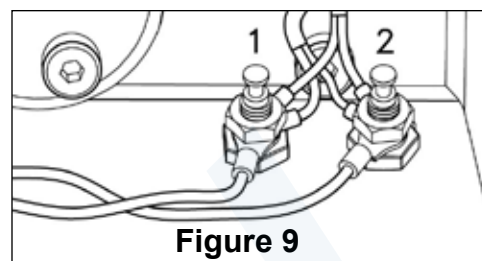
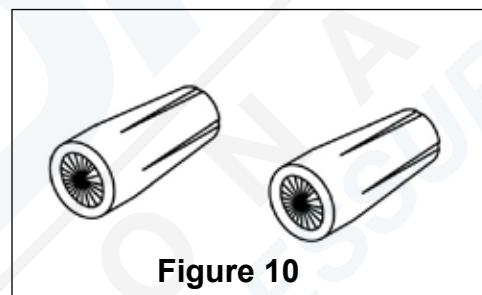
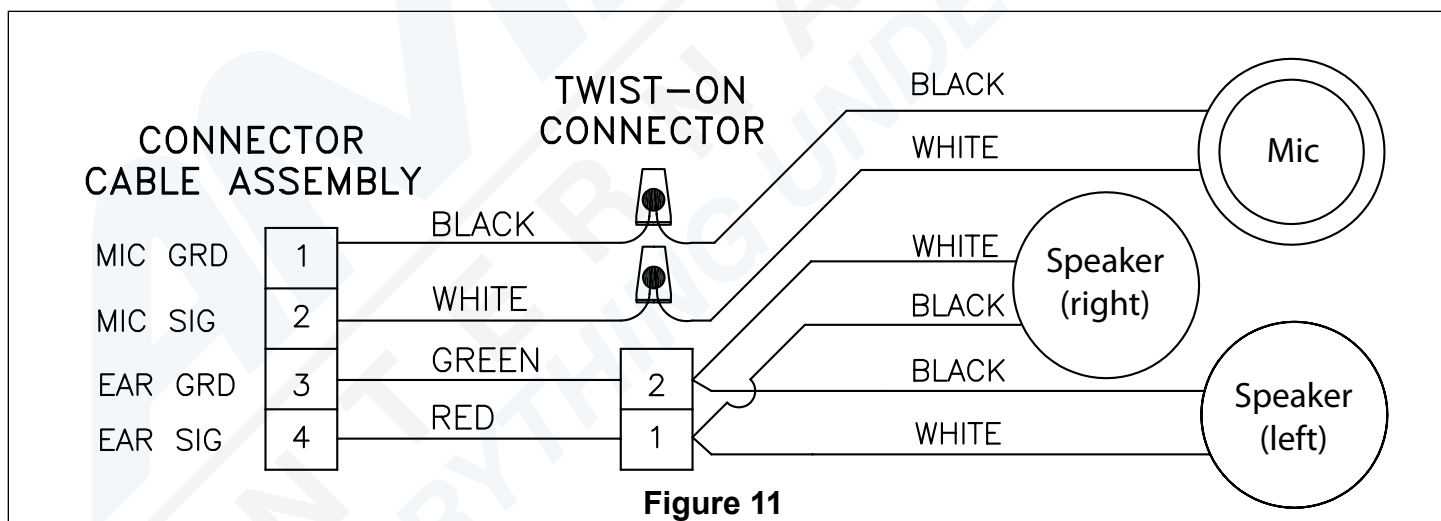

Figure 9
Figure 10
Figure 11
3. Install connector cable lug rings onto the communication posts (24) per the communication posts pin configuration (Fig. 9) and wiring diagram (Fig. 11). Install the speakers left / right lug rings onto the communication posts per wiring diagram. Securely tighten communication post hex nuts to communication posts with a 3/8" nut driver.
1. Wire the microphone (30) to the connector cable assembly (87 or 88) per the wiring diagram (Fig. 11). Place stripped wires together with the ends of insulation even. Twist connector (86) (Fig. 10) onto wires pushing firmly until hand-tight. Wipe sealant in and around conductors and connector open while tightening.